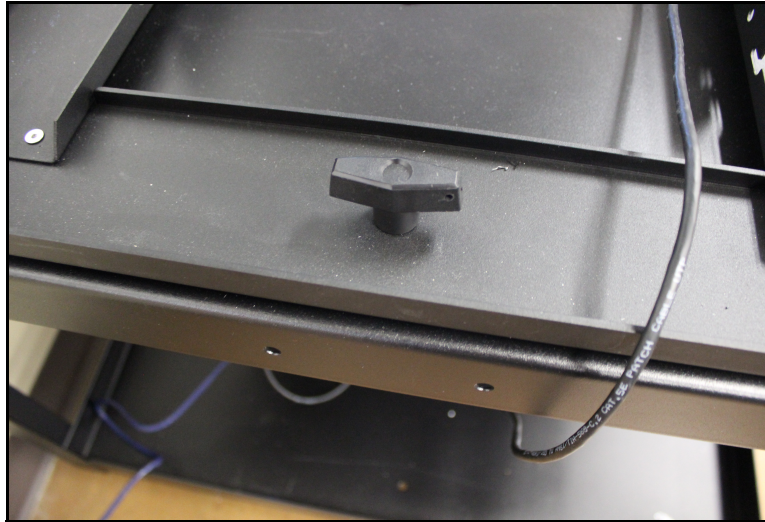

Figure 3
- An optional cart, custom-designed for the Cubiscan 325, is available from Cubiscan. If you purchased this cart, use the two T-handle pins to secure the Cubiscan to the cart. See Figure 3.